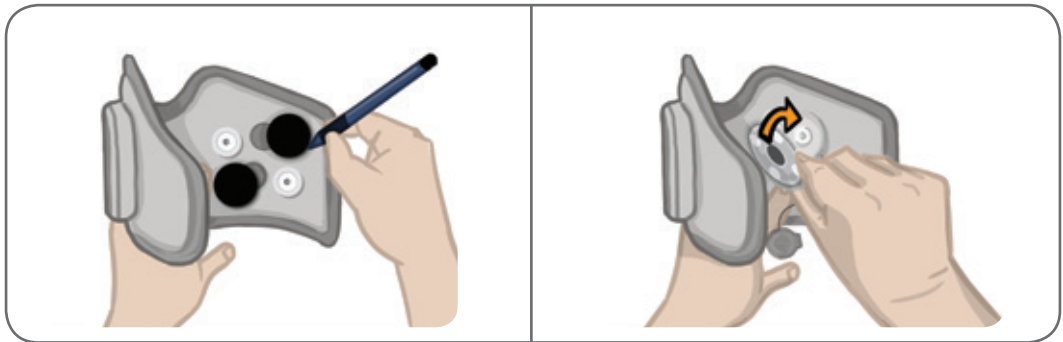

Figure 8-7: Mark Position of Electrode Base (Left)
2. Mark the position of the used electrode bases on the FS Cuff liner with a permanent marker. See Figure 8-7.